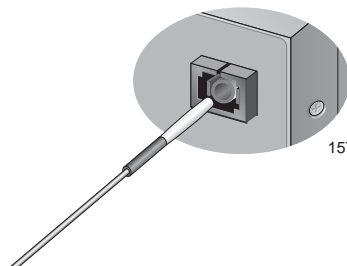

Figure 51. Cleaning a Recessed Ferrule
1. Insert the swab into the adapter as shown in Figure 51 and rub the ferrule tip with the swab.